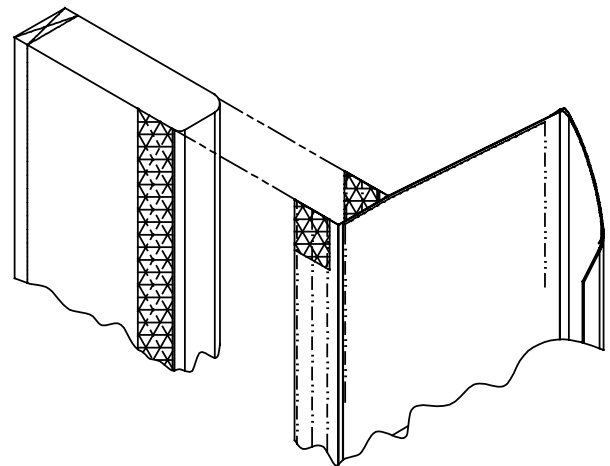

FIGURE 4
1. Align top edge of side curtain to top edge of side frame at the same time aligning the hook and loop flap on the outside of the side curtain to the hook and loop on the outside of the side frame. (See Figure 4)